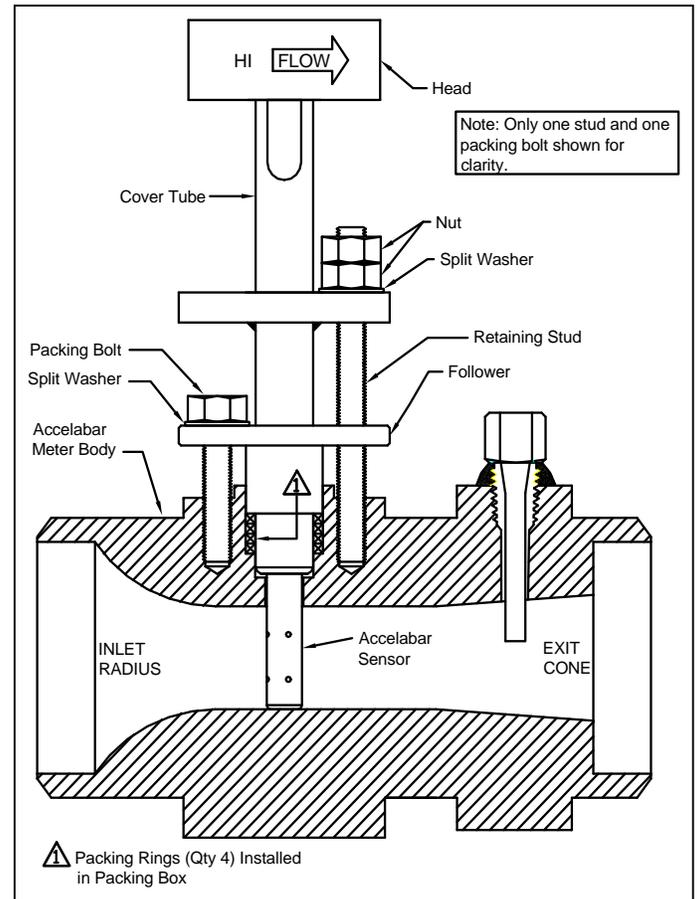

Figure 12. Final Assembly
- Installation is complete (see Figure 12 for Final Assembly.)